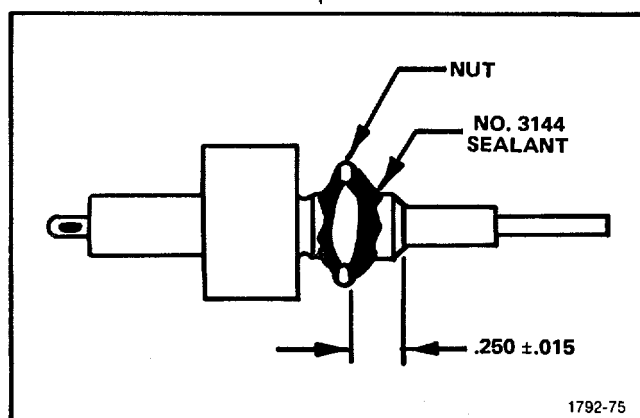

Figure 5-22. Application of sealant to ZERO REFERENCE control bushing.
3. Install nut as shown in Fig. 5-22.